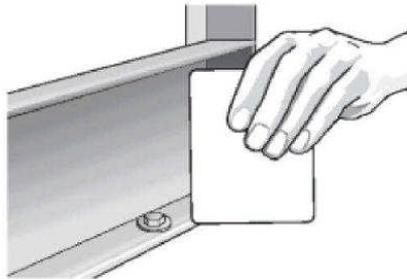
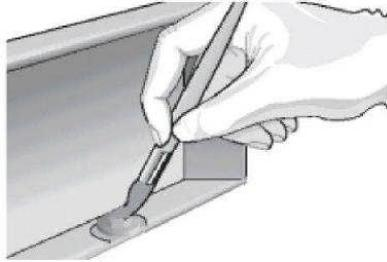

Figure 5.3 – Sealing Rack Frames
Figure 5.4 – Coating Rack Hardware
- 5.7 In facilities where a battery rack is already installed, use a spreader or putty knife to seal the base of the battery rack with Adhesive as shown in Figure 5.3. Using a brush, apply Adhesive to the battery rack anchoring hardware as shown in Figure 5.4.
- 6.9 In installations where Coating is installed before the battery system, racks may be positioned only after the Coating has been completely cured. If a leak test is to be performed, it also must be satisfactorily completed prior to rack installation. Do not load the racks with batteries until the Coating has had at least one week to completely cure. Once the battery racks have been installed, obtain a Leak Repair Kit (part number 5LRK0001) and use it to seal the frames (Figure 5.3) and anchors (Figure 5.4).